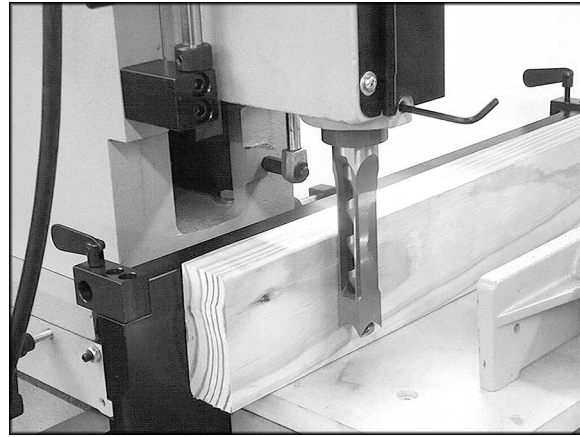

Figure 15
3. Move the head back carefully until the face of the chisel rests against the workpiece, but do not force. See Figure 15.